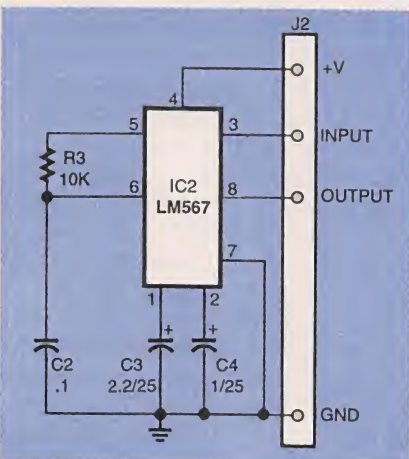

Fig. 2. A tone-decoder BreadBlox might be useful as a piece of test equipment as well as a part of an experimental circuit.
**The Tone Decoder.** The tone decoder (see Fig. 2) uses an LM567 for frequency detection. That chip contains an oscillator and phase detector that together work as a phase-locked loop circuit. The circuit needs four connections to the solderless breadboard—power, ground, the input signal, and "tone detected" output. The LM567 can use a supply voltage between 4.75 and 9 volts. By choosing the values of R3 and the three capacitors, a combination of center frequency and bandwidth can be set.